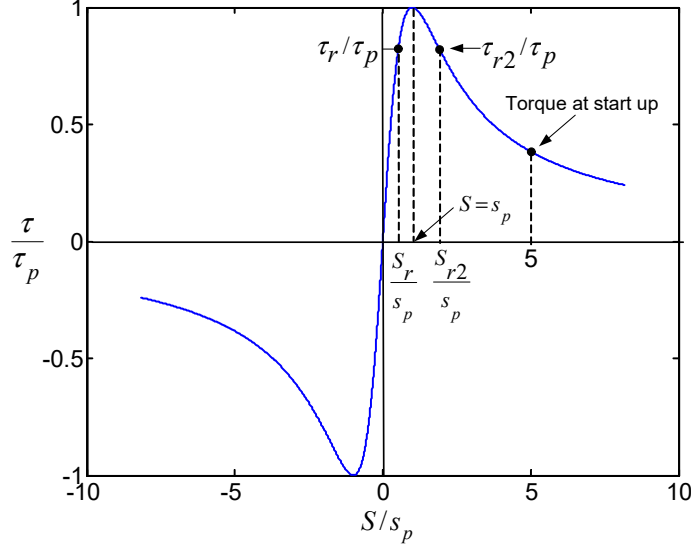
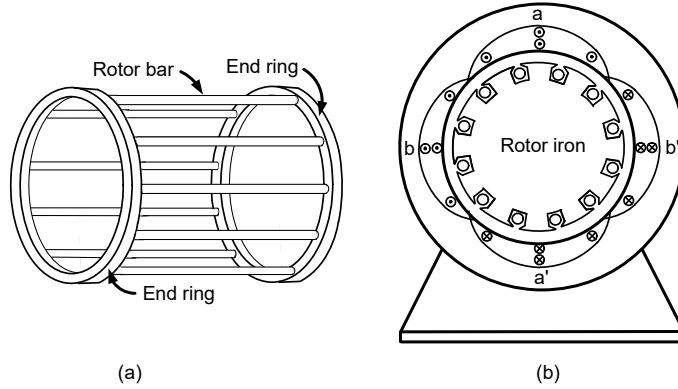

Figure 1: Torque versus slip.
Figure 2: (a) Squirrel cage rotor for an induction motor. (b) Cross section.
A plot of  $\tau/\tau_p$  versus  $S/s_p$  is given in Figure 1. Of course, an induction motor has more than two rotor loops. The squirrel cage rotor for an induction motor is shown in Figure 2. The cross sectional view of the rotor is shown in Figure 2(b) which shows that there are 6 rotor loops (12 sides) which can be viewed as three sets of 2 rotor loops  $\pi/2$  radians apart. Each set consists of two rotor loops  $\pi/2$  radians apart.
- (a) For the rotor with two loops  $\pi/2$  radians apart, the torque is given by (1). The rotor of Figure 2(b) has three sets of such loops so the expression (1) must be multiplied by 3.
- (b) Suppose the induction motor has a load on it and is producing the torque  $\tau_r$  so that it is operating at the point  $(S_r/s_p, \tau_r/\tau_p)$  shown in Figure 1. Further, suppose an additional load is put on the motor
The motor was originally operating at  $(S_r/s_p, \tau_r/\tau_p)$ .  $S$  increases and thus the torque increases to handle the increased load (See Figure 1).
With more load torque on the motor, the motor will slow down, i.e., the speed decreases. As  $\omega_R$  decreases due to the increased load, the normalized slip  $S = (\omega_S - \omega_R)/\omega_S$  increases. As  $S$  increases the torque decreases showing that the motor cannot handle the increased load (See Figure 1).
- (d) Suppose the induction motor is turned off (no currents applied to the stator phases) so that  $\omega_R = 0$ , but it has a load torque  $\tau_L = \tau_r$  on it (the same  $\tau_r$  as in Figure 1). Let  $s_p = 0.2$ . Now stator currents of frequency  $\omega_S$  are applied to the stator phases.
Mark on Figure 1 the operating point of the motor.
Just after applying the stator currents  $\omega_R$  is still zero and so The startup torque is marked on Figure 1. As the startup torque is less than the load torque on the motor, the motor will not start.